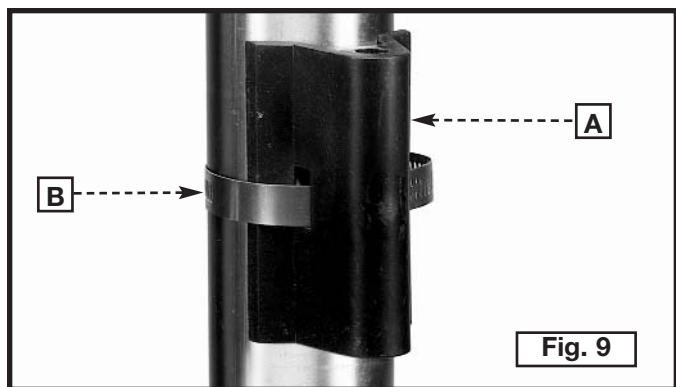

Fig. 9
5. Place the mounting bracket (A) Fig. 9 on the column.
6. Insert the hose clamp (B) Fig. 9 through the mounting bracket, under the raising rack, and around the column. Tighten the hose clamp securely.